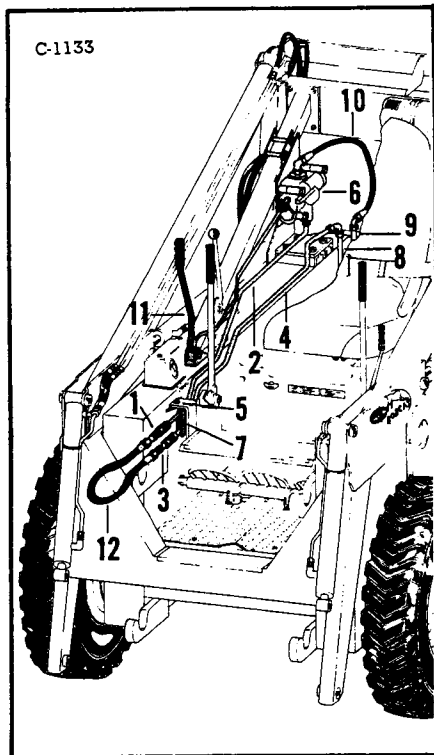

Fig. 163 Mounting Auxiliary Kit
2. With two NPT x 1/2" 37° Flare straight adapters, connect the male half of the quick coupler (Figure 163, Item 1) to the shorter tube (Item 2) and the female half of the quick coupler (Item 3) to the longer tube (Item 4) and tighten securely.
15. Attach the ends of a hydraulic jumper hose to the quick couplers to complete the circuit (Figure 163, Item 12).